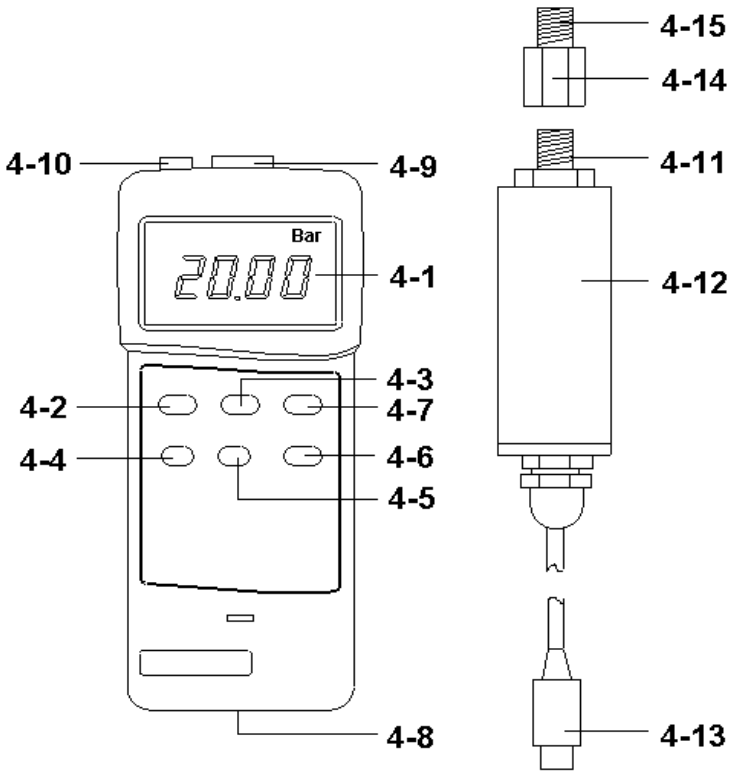

Fig. 1
- * Data Hold Button (4-3 Fig. 1)
- * " Max./Min. " Button (4-4 Fig. 1)
- * Sensor Type Button (4-7 Fig. 1)
- 3) Not release the above 3 keys, , push the " Power Button " (4-2 , Fig. 1) once a while. all the LCD segment will lit. Release the 3 buttons, the display will show the memorized sensor type.
- 4) Push the " Sensor Type Button " (4-7, Fig. 1) can select the different sensor type (2, 5, 10, 20, 50, 100, 200, 400 Bar). Until the display show the desired sensor type, push the " Zero button " (4-6, Fig. 1) to enter the desired sensor type. The new setting sensor type will memorize into the circuit even power off.
- 1) Plug in the " Plug of Pressure Sensor " (4-13, Fig. 1) to meter's " Sensor Input Socket " (4-9, Fig. 1)
- 2) Power on the meter by push the " Power Button " (4-2, Fig. 1)
- 3) Push the " Sensor Type Button " (4-7, Fig 1) to check if the meter's sensor type is same as the external pressure sensor.
- 4) Push the " Unit Button " (4-5, Fig. 1) to select the unit (Bar, Psi, Kg/cm² mm Hg, inch Hg, meter H2O, inch H2O, Atmosphere).
- 5) Zero the meter by push the " Zero Button " (4-6, Fig. 1), the display reading will change to zero value.
- 6) Connect the " Port Connector of Pressure Sensor " (4-11, 4-15, Fig. 1) to the installation that intend to measure the pressure value that into the sensor.
During the measurement, pushing the " Data Hold Button " (4-3, Fig. 1) will freeze the measured value & display will indicate " HOLD " symbol.
* The DATA RECORD function displays the maximum and minimum readings. To start the DATA RECORD function, press the " Max./Min. Button " (4-4, Fig. 1) once. " REC " symbol will appear on the LCD display.
- (a) Push the " Max./Min. Button " (4-4, Fig. 1) once, the " Max " symbol along with the maximum value will appear on the display.
To de-activate this feature, Select the memory record function during measurement, by pressing the " Max./Min. " button (4-4, fig. 1).
" Hold Button " (4-3, Fig. 1)
" Max./Min. Button " (4-4, Fig. 1)
- 3) Still hold the " Hold Button " & the " Max./Min. Button ", at same time push the " Zero Button " (4-6, Fig. 1) once a while, the display will flash one time & return to zero as :
- * *Push the " Sensor Type Button " (4-7, Fig. 1) once will add one count to the down display value.*